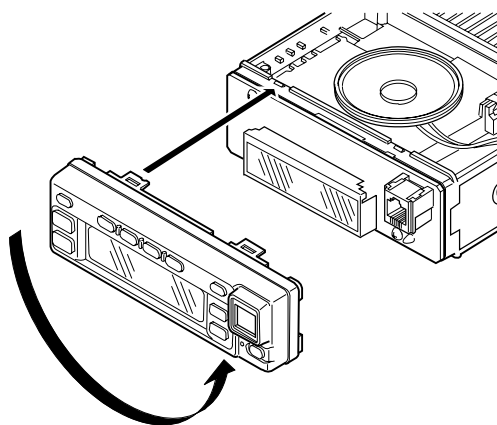

Fig. 13
6. Rotate the control panel 180 degrees and mount it on the transceiver. Refit the two halves of the case to complete installation. (Fig. 13)